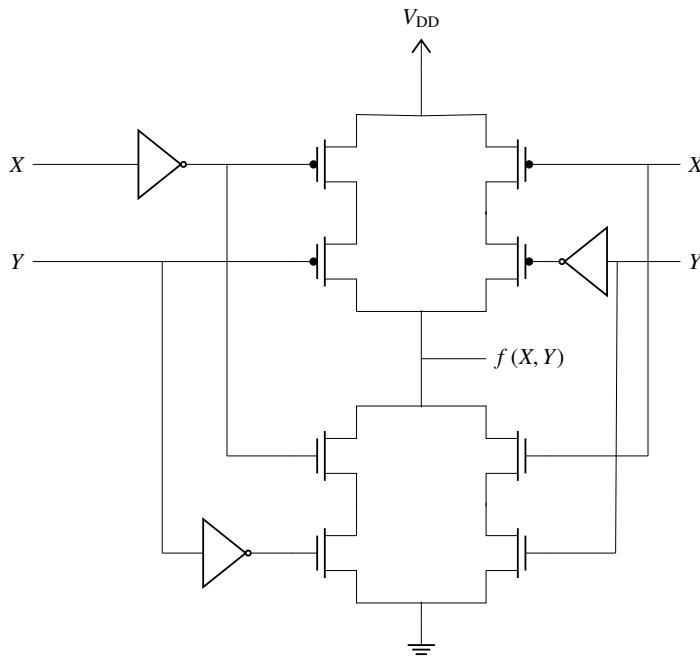

Fig. 3.22
39. The logic function $f(X, Y)$ realised by the given circuit in Fig. 3.22 is (GATE EC 2018)